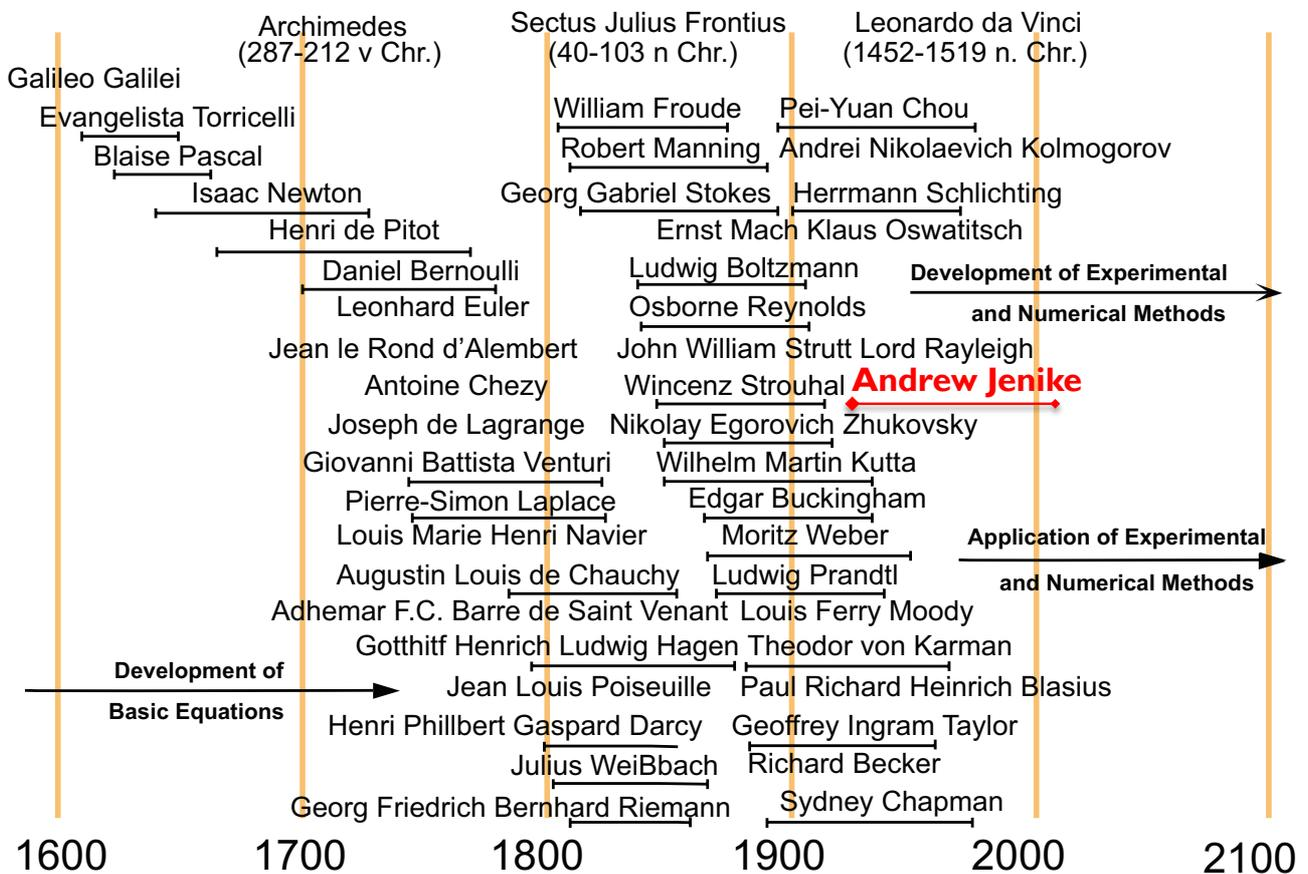

Figure 8: Our Heroes of Flow
- In terms of the root causes of these failures, lack of knowledge around heat and mass transfer was the biggest factor. While there are many Heroes of fluid flow, the field of bulk solids flow, which is arguable as important and ubiquitous, is less well researched (Figure 8). As a consequence, our understanding of the transport phenomenon associated with bulk solids is poor when compared to gases and liquids,
Grated, the flow behaviour of liquids has been the subject of intense study by a start-studded cast of generous engineers and polymaths for over 450 years (Figure 8), but thanks to the efforts of Jenike [12] [13] [14], there is a well-established and accessible science underpinning the flow behaviour of bulk solids.